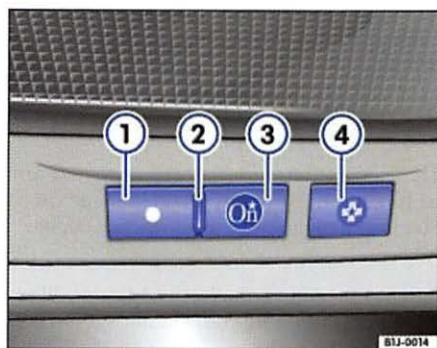

Fig. 5 DOT button
- Press the DOT button ⇒ **fig. 5 ①** at the end of a call. You'll hear the words <OnStar Request Ended>.